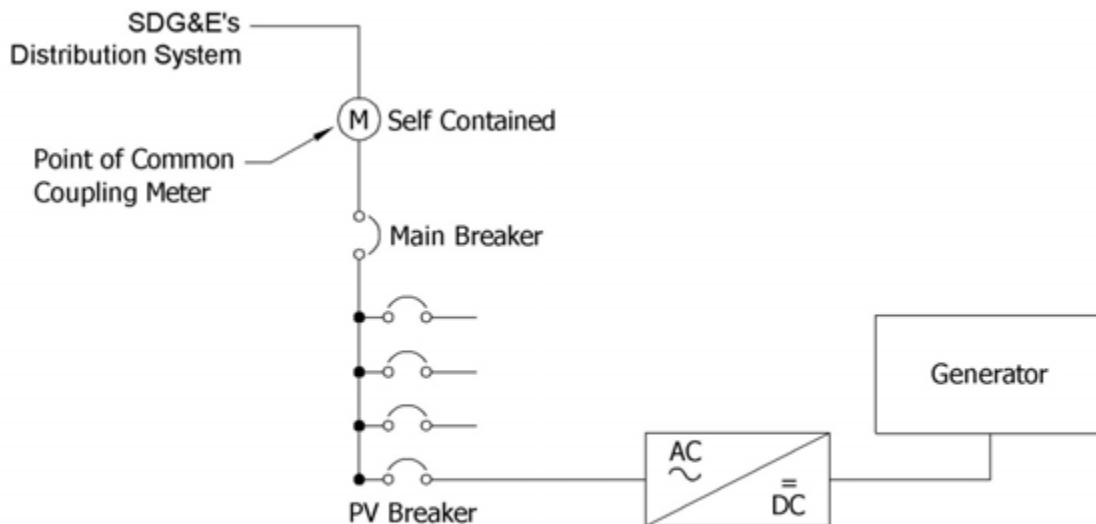

FIGURE 1
- e. Customers shall install plaques at all AC disconnects clearly stating their purpose is for operation by the Utility or authorized emergency responders. Refer to the following Figures 1 – 3 and notes.
Notes to Figures 1 and 2: